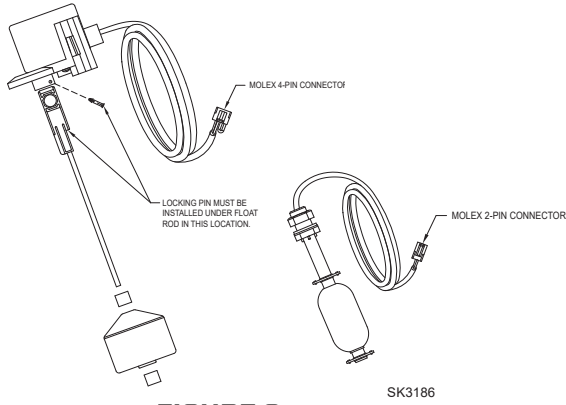

FIGURE 3
- Assemble the operational float assembly per Figure 3. Install float switches as seen in Figure 1. The top rubber stop is not needed unless the "on" level needs to be lowered.
- Install the Spin Controller (see Figure 3) by using the anchors provided. For best cooling, install wall mount configuration. The controller should be located at least 3' (1 m) above the sump.
| <ol style="list-style-type: none">1. DC pump won't run.<ol style="list-style-type: none">(a) Check for proper connections.(b) Check all wire terminal points. Clean if required.(c) Check for low battery. Service battery if required.(d) Check 30 amp fuse on controller (see fig. 3). If fuse is blown, replace with 30 amp automotive blade fuse.2. Pump runs but pumps very little or no water without AC power.<ol style="list-style-type: none">(a) Check for low battery. Battery will recharge if green power "on" light indicates power has been restored and the float switch is in the off position.(b) If immediate usage is required, remove and replace dead battery with a full recharged battery.(c) Due to varying conditions the pump may continue to run on a low battery without sufficient power to remove water. Pump will not stop running until battery is below minimum voltage.(d) ⚠ CAUTION Weak batteries can be recharged but may not store sufficient energy for full service. A weak recharged battery can only be detected by reduced pumping time or by professional load testing equipment. If your emergency pump system is used frequently the battery should be checked by a qualified battery dealer.3. Pump runs but pumps very little or no water.<ol style="list-style-type: none">(a) Verify pump is connected completely.(b) Check to make sure pump weep hole is clear and unit is not airlocked.(c) Make sure discharge piping is not blocked. | <ol style="list-style-type: none"><ol style="list-style-type: none">(g) Hold silence/ reset button for 3 seconds to reset the controller and clear any alarms or indicators.2. Plug the controller and the primary pump into the wall outlet.<ol style="list-style-type: none">(a) The primary pump will come on, lower the water to the normal operating level and shut off.(b) The battery light will be yellow when charging. The charger is replacing the energy consumed during the test. The green light will come on after the charger has replaced the energy consumed during the test. <p>*Electrolyte levels in wet cell batteries should be checked monthly. Such a check is not required for "maintenance free" battery types.</p> |